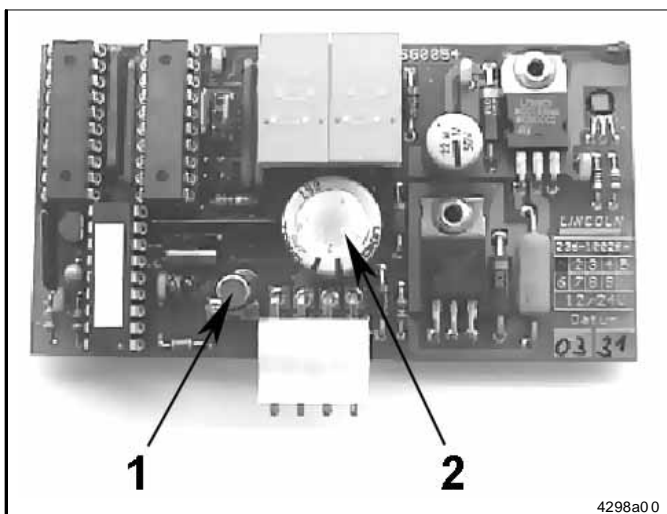

Fig. 7-3 Control p.c.b. 236-10028-1
- A motion sensor 1 (Fig. 7-3) controls the time lapse for the stand-by time integrated in the control p.c.b. It collects the movements (driving times) of the vehicle, upon which it initiates the necessary operational signal for the control of the stand-by time.
- Normally, the brake-light voltage applies only for a short term. Therefore, a capacitor is required for the time storage (see Fig. 7-3). During the braking procedure, the capacitor is charged and is available as continuous power supply for generating the operation-dependent signal.